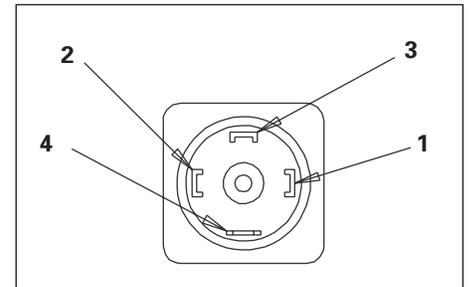

Figure 2
3. Pressure switch wiring terminals are numbered on each DIN plug connector. Refer to Figure 2 for correct connection.